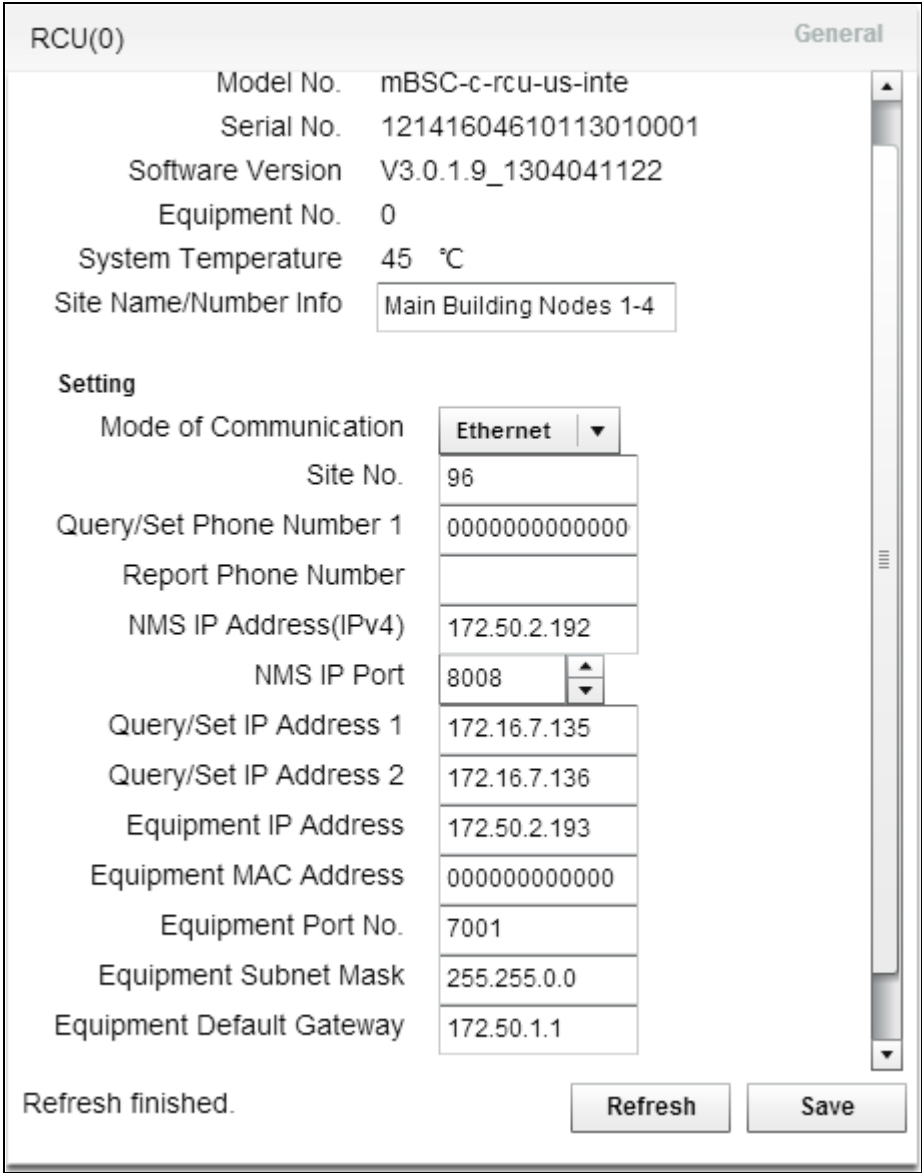

Figure 40- RCU Component View
- 1. Type the appropriate URL into the browser (e.g. <http://192.168.5.220> for USB port). The dialog box shown in Figure 40– EMS Local GUI Login will appear.